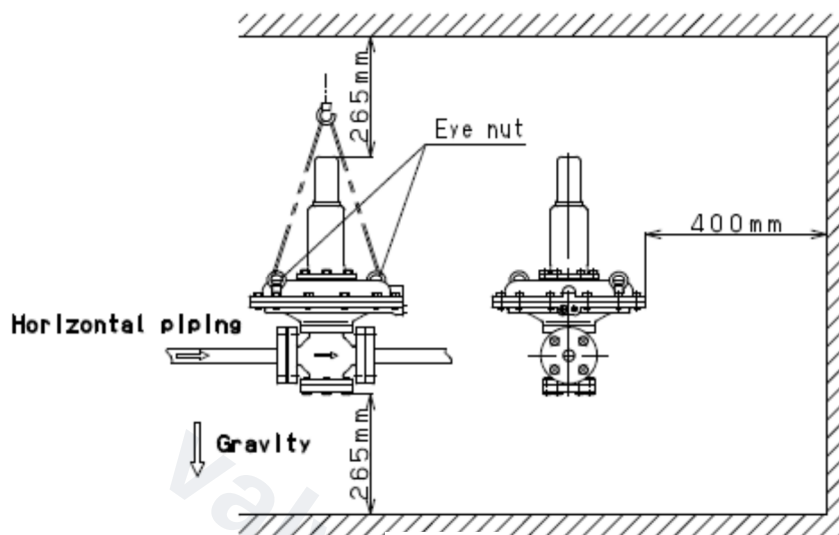

Fig.2
- (2) Before connecting the pressure reducing valve to the piping, remove the foreign materials from the piping.
- (3) Install a strainer (equivalent to 80 mesh) to the inlet of the pressure reducing valve.
- (4) Connect a primary pressure regulating valve or safety valve to the outlet side of the pressure reducing valve to protect it and outlet side equipment.
- (5) Be sure to attach a pressure gauge to the inlet and outlet of the pressure reducing valve.
- (6) Connect stop valve and bypass pipe to the pressure reducing valve.
- (7) The pressure reducing valve must be normal to the horizontal pipe, with the adjusting spring side facing up. (Refer to Fig. 2.)
- (8) The piping from the pressure reducing valve outlet must be of a size so that the current flow velocity in the tube is 5-15 m/s.
- (9) Be sure to connect the external sensing port to the outlet of the pressure reducing valve.
- (10) When two-stage pressure reduction is employed, the distance between the pressure reducing valves must be 3 m or more.
- (11) Do not install a quick opening/closing device e.g. solenoid valve at the inlet and outlet.
- (12) Before installing the valve, verify the location of the inlet and outlet. The arrow on a side of the pressure reducing valve indicates the direction of flow. Observe the arrow.
- (13) Do not subject the pressure reducing valve to excessive load, deflection (bend), or vibration, through the connected piping.
- (14) Secure the necessary maintenance space at the installation site of the pressure reducing valve.
*If the space is smaller than these values, the valve cannot be disassembled for maintenance. (Refer to Fig. 2)